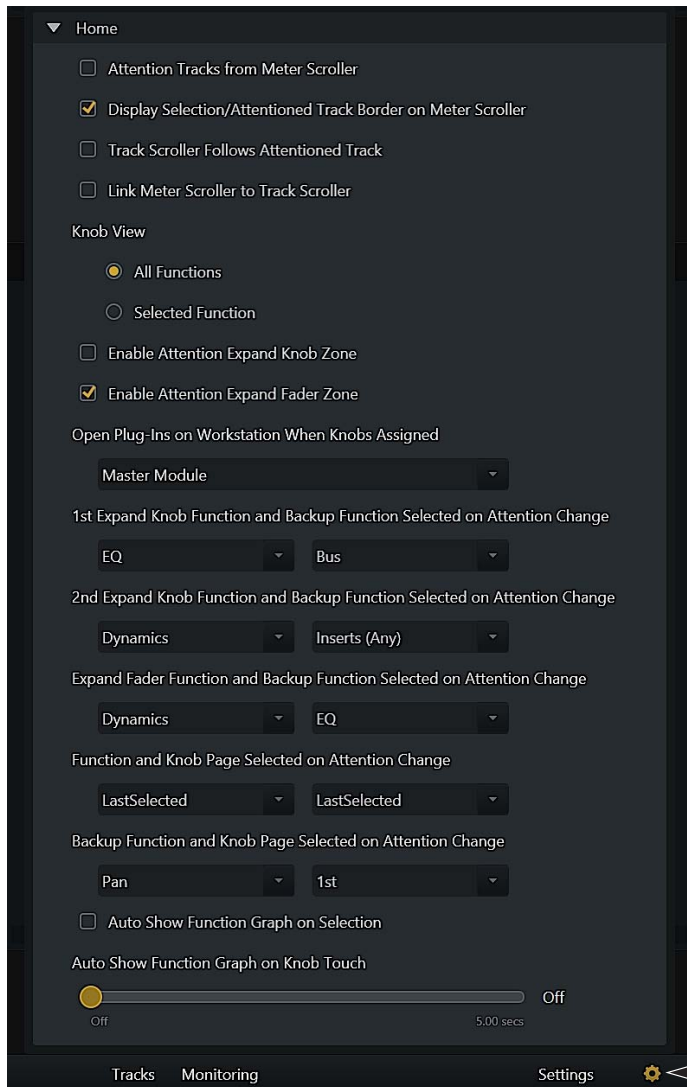

Figure 39. Home Screen Options with Local Options icon on the right
- Touch the Local Options icon on the bottom-right of the Home screen (see Figure 39).